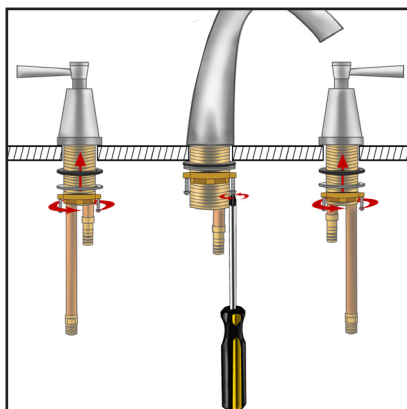

Figure 3
**3.** From underneath the deck/sink, slide the rubber washer followed by the metal washer all the way up the threaded shank of the faucet (**Figure 3**).
**4.** Screw the locknut all the way up the threaded shank of the faucet until tight. Then using a Phillips-head Screwdriver, tighten the screws of the locknut until tight (**Figure 3**).